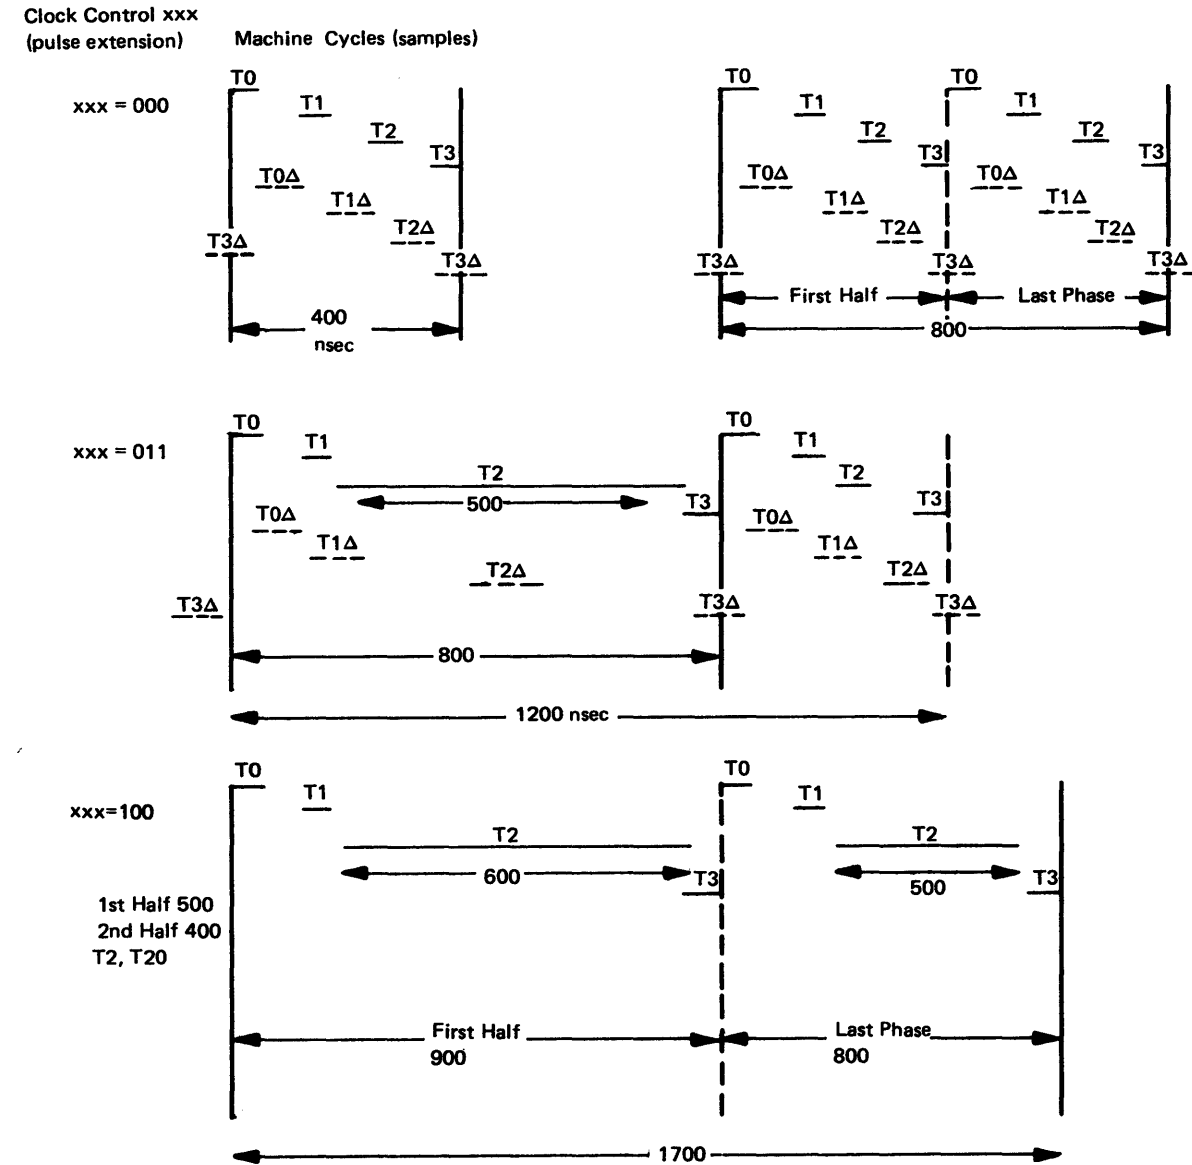

Figure BU451-1. 8130 Storage Delay Clock Pulse Timing
- Clock extension (8130 ONLY) – Refer to Figure BU451-1 for the following explanation. Due to the nature of the regenerative storage used in the 8130, storage access time can be delayed if access is requested during a refresh cycle. For this reason, and because of the different access times between processor storage and register storage, it is sometimes necessary to extend the clock pulse duration. This is done by a decode of the 3-bit clock control field in each ROS pattern. Using this decode, the clock pulses can be selectively extended so that the clock sequence remains the same, but the overall machine cycle is increased.